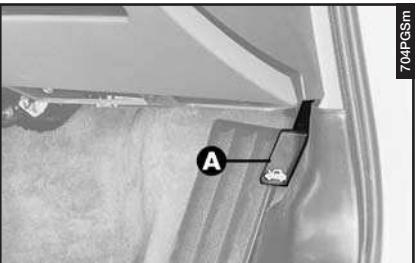

fig. 8
- Pull the lever (**A-fig. 8**) until the bonnet clicks open.